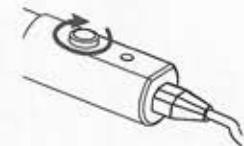

Fig.9
- Turn the thermostat knob in a clockwise direction until it reaches the maximum setting [FIG.9].